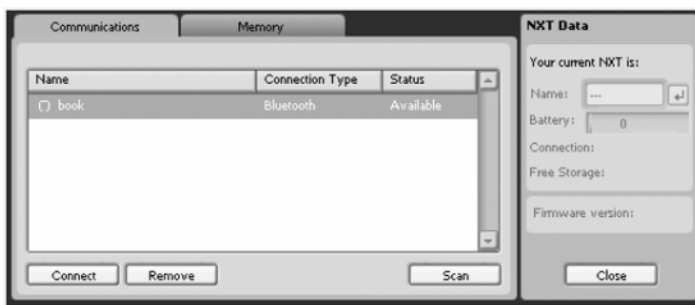

Figure 2-9. *The NXT named “book” has been found using Bluetooth.*
- Connect the NXT to the PC using the USB cable. Otherwise, you can turn on the Bluetooth radio of the NXT brick using its menu. Be sure also to turn on the NXT Bluetooth visibility; use the NXT User Guide as a reference. Then, click the Scan button on the NXT window in Figure 2-8. If you're using a USB connection, it should find the NXT at once; scanning takes a bit more time, if you're searching the NXT using Bluetooth. Once the NXT has been found, it shows up in the list, as you can see in Figure 2-9.